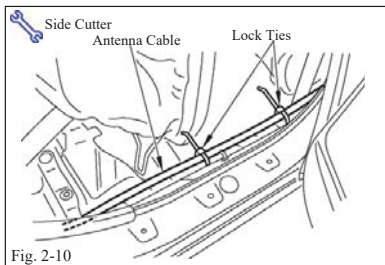

Fig. 2-10
(1) Route cable next to factory harness and install 2 lock ties as shown. (Fig. 2-10)